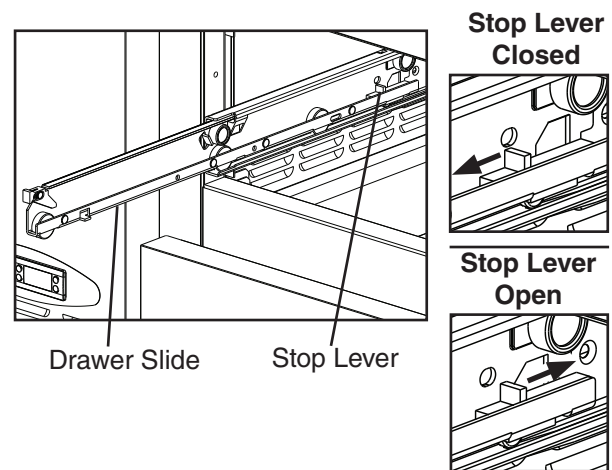

Fig. 20
- **To remove a drawer slide (center slide containing rollers):** Open the stop levers (one on each side) by sliding them to the rear. See Fig. 20. Lift up on the drawer slide slightly, then pull to disengage the drawer slide. **WARNING! Be sure to close the stop levers when reinstalling the drawer.** Drawer slides do not require lubrication, but drawer slides should be kept clean and free of food.